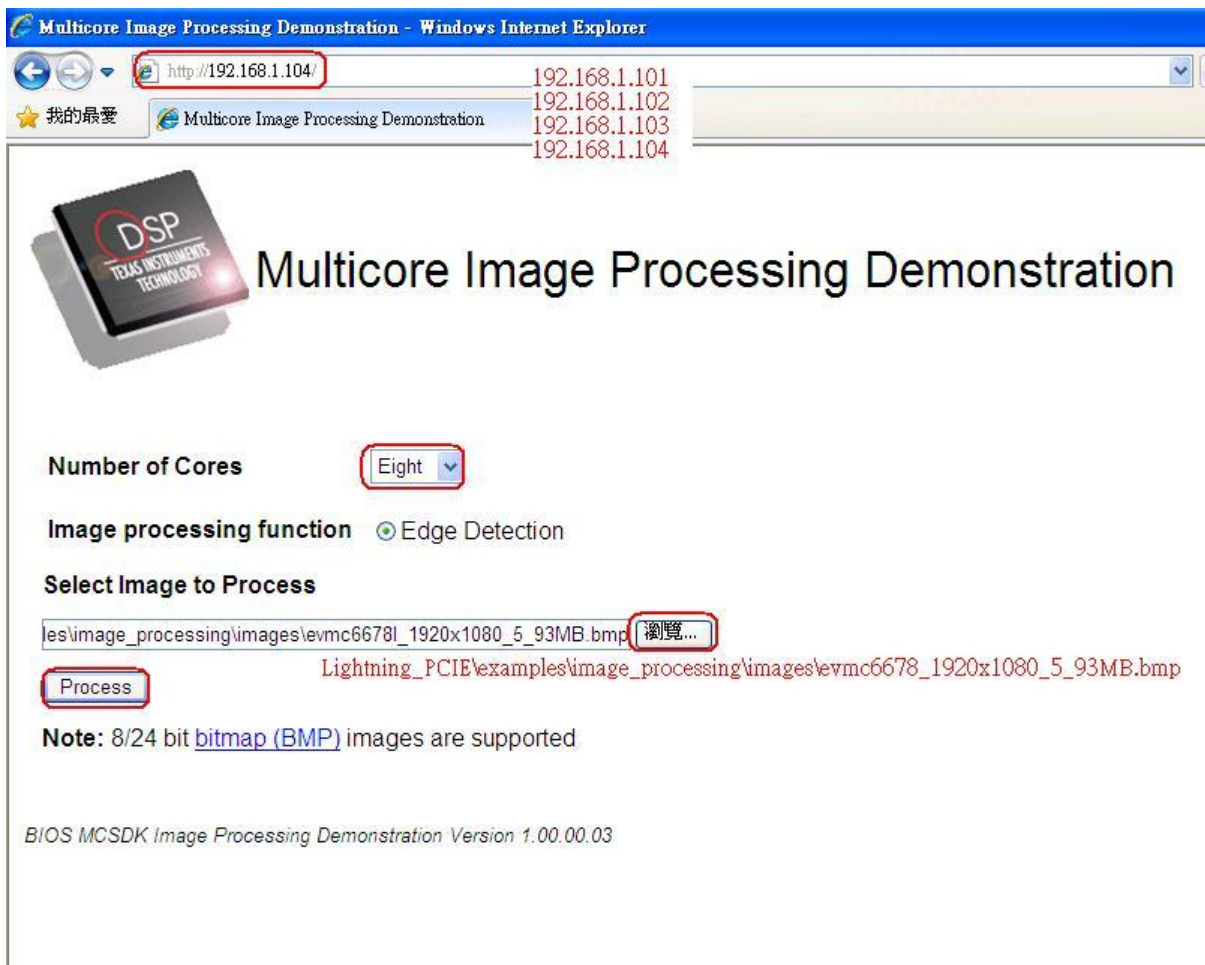

Figure 4-8 Image Processing Input Page
5. Please refer to the Figure 4-8. Input the BMP image form the internet browser. The URL of DSPs are <http://192.168.1.10X>, X=1~4. Select the number of core and image path for processing.